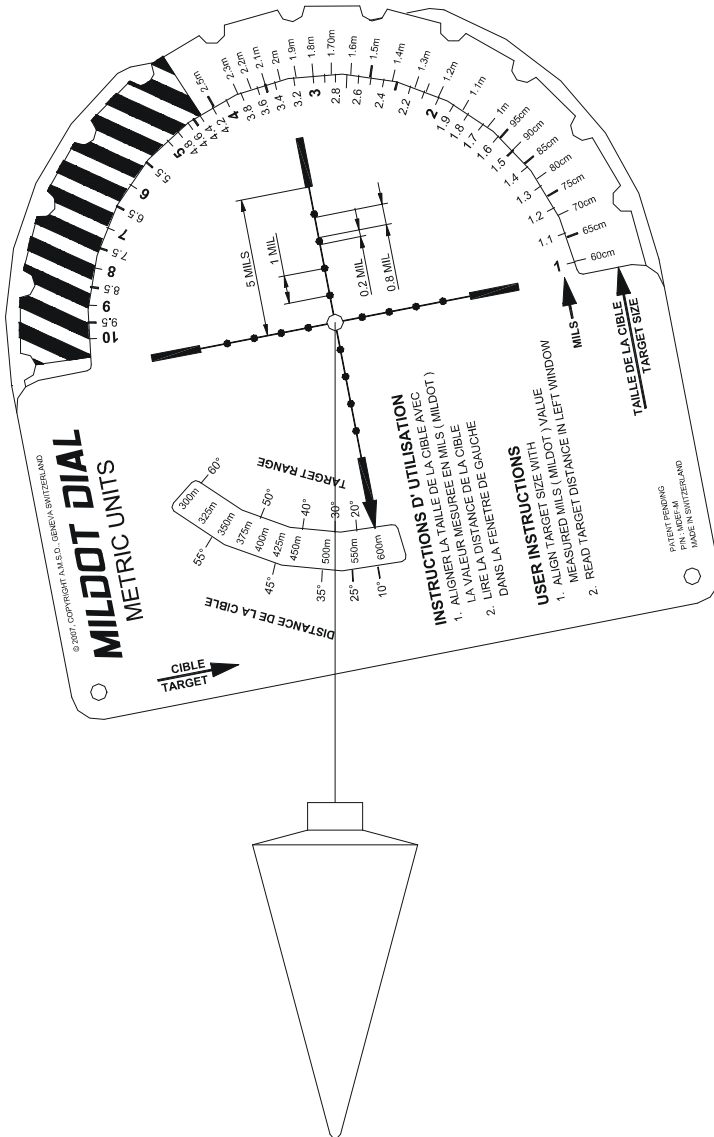

Fig 62.
c.1.1.) As per illustration Fig. 62.
c.2.1.) As per illustration Fig. 62.